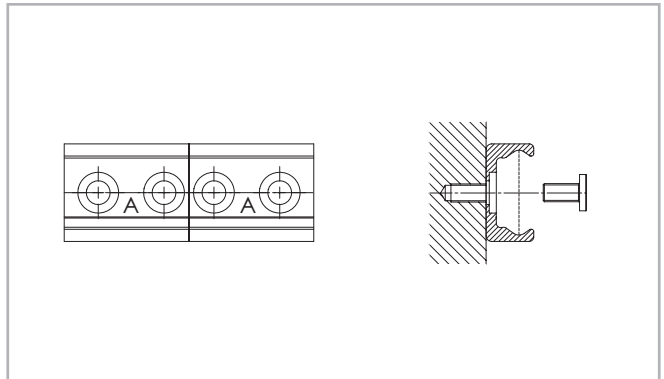

Fig. 171
- (1) Fix the individual rails on the mounting surface by tightening all screws except for each last one on the rail joint.
- (2) Install the end fixing screws without tightening them (see fig. 171).